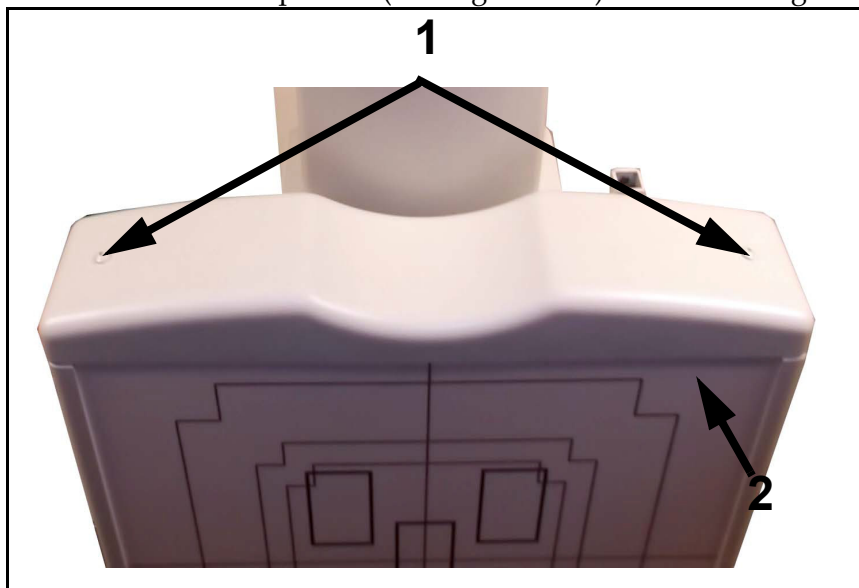

Figure E-23. Top Cover Reattachment
25 Reinstall top cover (2 in Figure E-23) with mounting screws (1).